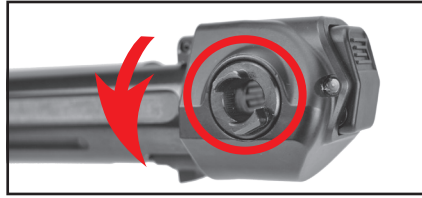

Figure 12
5. Hold the **Bolt Assembly** in your hand. With your thumb, place pressure on the rear of the **Bolt End Cap** towards to front of the bolt assembly. Unthread the **Bolt Handle Post** counter-clockwise from the left side of the bolt assembly - see Figure 12.